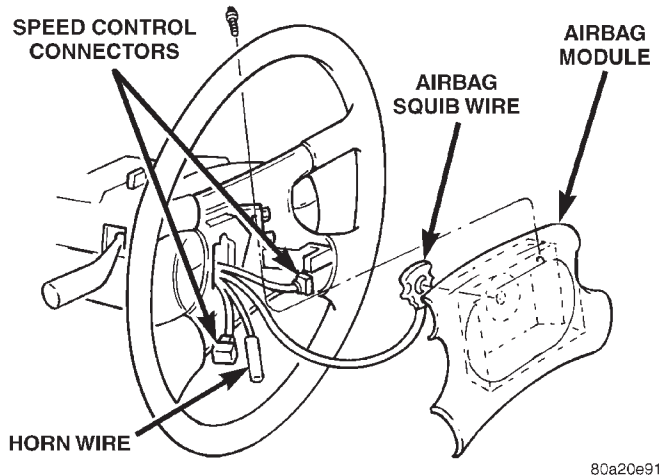

Fig. 6 Driver Airbag Module
- (1) Disconnect and isolate the battery negative cable.
- (2) Remove the speed control switches or covers from steering wheel back shroud and disconnect the wires.
- (3) Remove two bolts attaching the Driver Airbag Module from the sides of steering wheel (Fig. 6).
- (4) Lift module and disconnect the airbag squib wire connector and the horn wire.
- (5) Remove the Driver Airbag Module.
- (6) When replacing a deployed Driver Airbag Module, the clockspring must also be replaced. Refer to Clockspring Removal and Installation for the proper procedure.